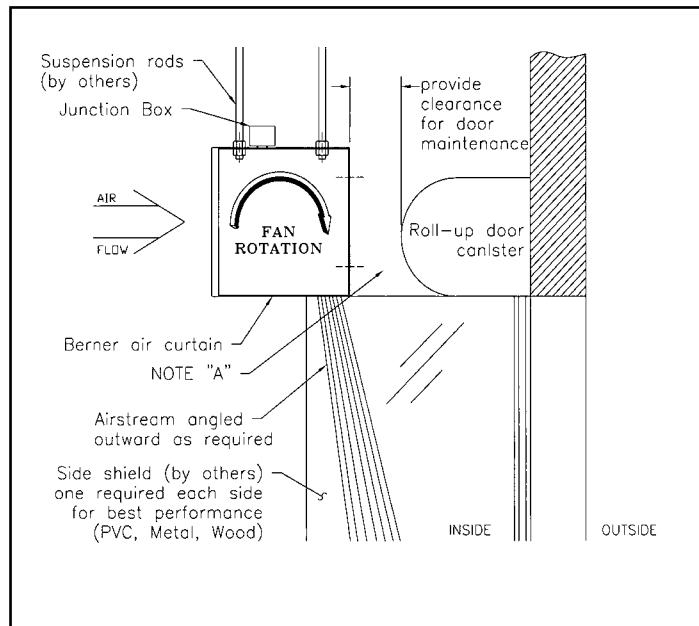

FIGURE 1 - Roll-Up Door
B. **IMPORTANT** See Figures 1-6. The unit should be mounted level with the top of the door opening or level with the side of the opening (for vertical mount). The outlet nozzle shall be located no more than 1" above the top/side of the opening. If the air curtain must be mounted higher, then it must be spaced out from the wall $3/8"$ for every inch the unit is above the opening (4.5" per foot). If the unit is mounted 6" or more away from the opening, side shields are recommended See Figure 1.